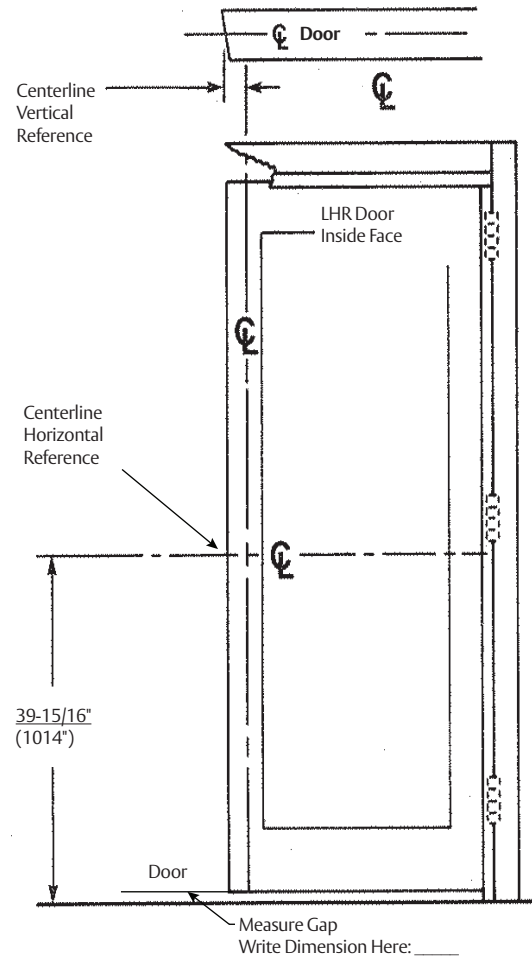

Figure 6
- Locate and mark horizontal and vertical centerlines as shown. (Figure 6)
- LHR door shown. Preparation is typical for both door hands. (Figure 6)